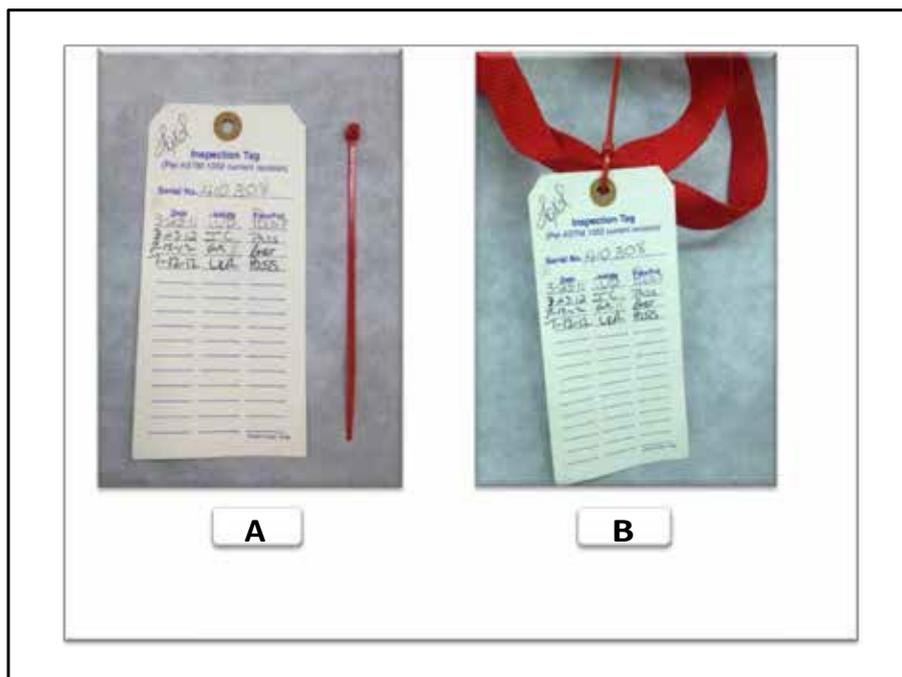

Figure 7: (A) Pull Tie and Inspection Tag (B) Pull Tie and Inspection Tag binding the handles together.
6. Cut the pull tie that attaches the inspection tag to the garment storage bag (Figure 7), open the bag and remove the gas tight garment. Unfold the garment and place face down on a smooth clean surface where it can be inflated without obstruction.
16. Disconnect the valve adapters (A) from the garment.
17. Fill out the inspection tag; see Figure 7 (A), which came attached to the bag with the results of the test and the user information.
20. Using a pull tie, attach the inspection tag to the bag while binding the handles together; see Figure 7 (B).